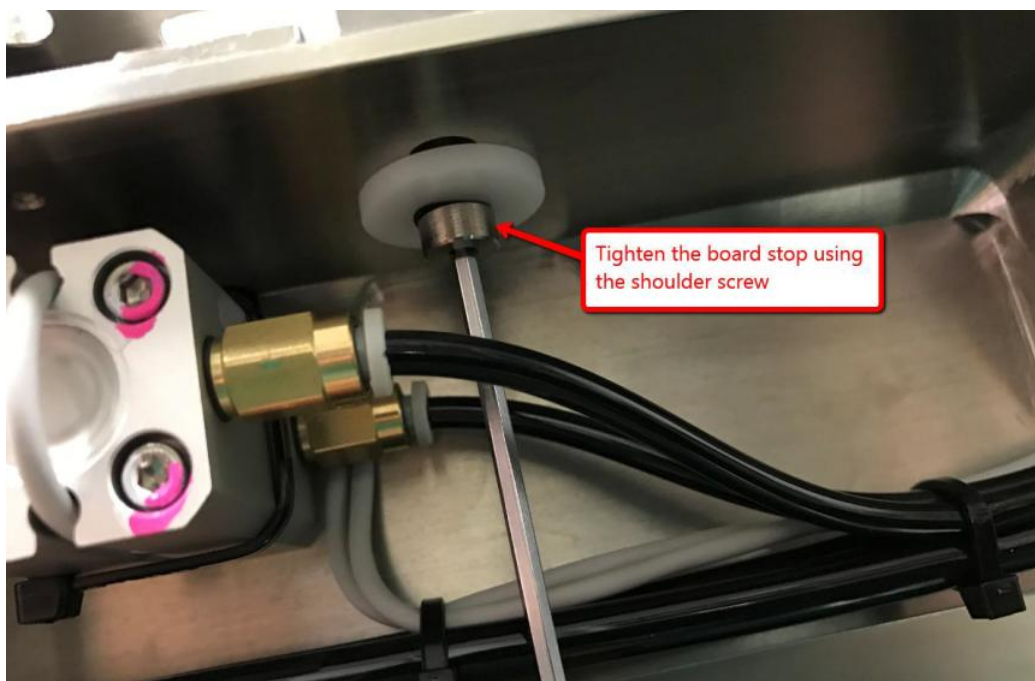

Figure 10 Board Stop
4. Assemble all fastening (Shoulder screw, curve washer & XXL Spacer) into PC, board stop as Figure 10
5. Gently route sensor head into PC, Board as Figure 10